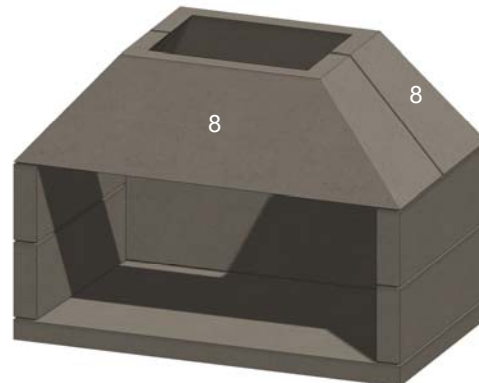

Figure 12. Throat Pieces
F. Install the tapered front and rear throat pieces (8). See Figure 12.